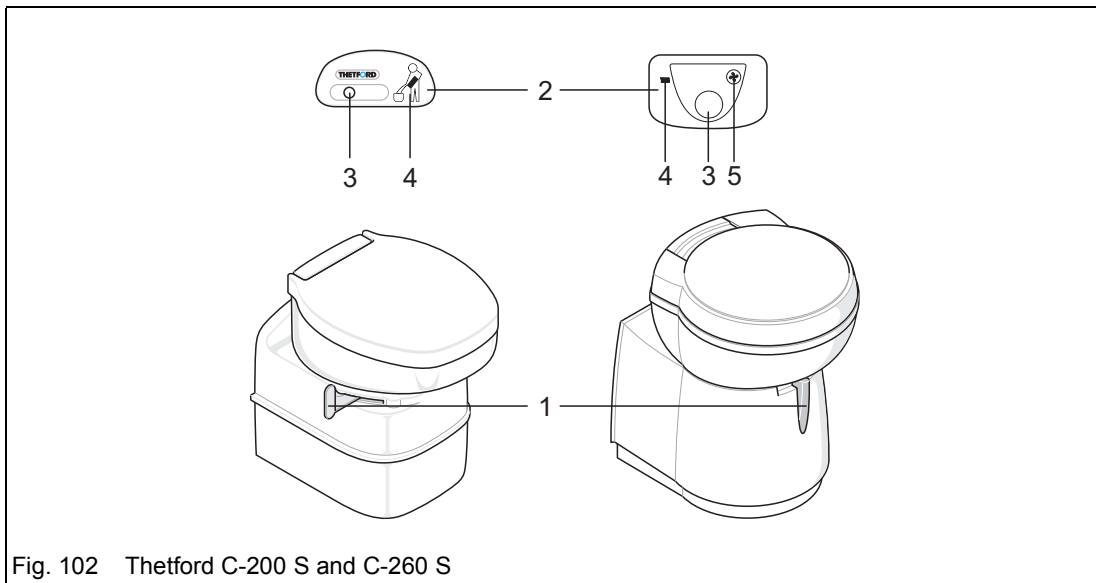

Fig. 102 Thetford C-200 S and C-260 S
- ➔ Before flushing, use the lever (Fig. 102/1) to open the valve blade.
- ➔ To activate the control panel, press the flush button (Fig. 102/3) once.
- ➔ Push the lever (Fig. 102/1) to the side if the valve blade is still closed.
- ➔ Flush the toilet (Fig. 102/3) by pressing the flush button for several seconds (if necessary, reactivate the control panel (Fig. 102/2).
- ➔ Close the valve blade with the lever (Fig. 102/1) after flushing.
The cassette (Fig. 103/1) has a capacity of approx. 17 l and should be emptied when the level indicator (Fig. 102/4) lights. Do not allow the cassette to become overfilled.
The cassette (Fig. 104/1) has a capacity of 18 l and should be emptied when the level indicator (Fig. 102/4) lights. Do not allow the cassette to become overfilled.
- ➔ Close the valve blade (Fig. 102/1) in the toilet compartment.